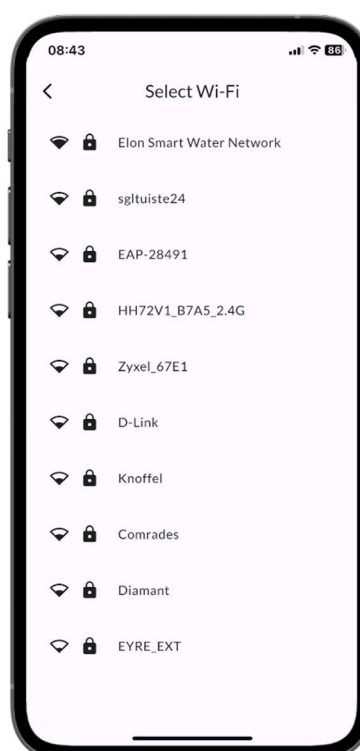

Figure A3 Select Wi-Fi
10. The application searches for the available networks and displays them in a list (**Figure A3**).